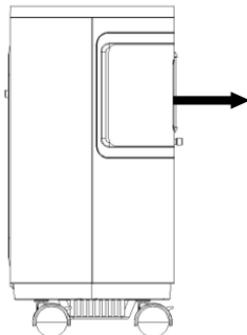

Figure 10
(1) Pull out the humidification water tank along the direction shown in the figure (Figure 10)